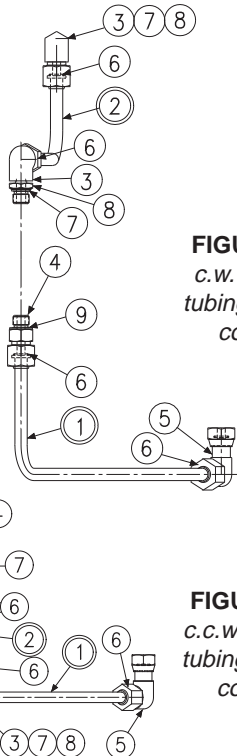

FIGURE 19
| 3 | Tube Assembly (Fig. 19) | P22-16070 | P22-16071 | 1 | - |
PARTS LIST FOR FIGURE 19
7. Install proportional valve with LVDT, (9). Torque screws (22) to 66 in.-lb, 7,5 Nm.
8. For 260 series, install adapter, (27).
9. Install tubing assembly (Figure 19, 20).